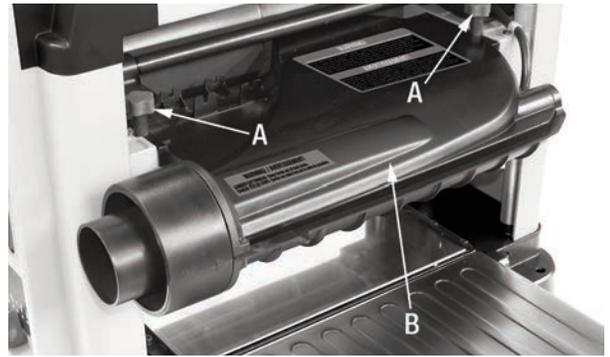

FIGURE 13
- 2) Remove the dust chute lock knobs (A) Fig.13 and remove the dust chute (B).